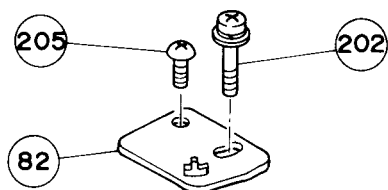

Figure 10
- (1) Unsolder the five lead-wires on Phono PCB Assembly " 82 " coming from tonearm.
- (2) Remove the Phono PCB Assembly which is mounted to the Plate Assembly " 47 " by two screws, " 202 " and " 205 " as shown in Figure 10.